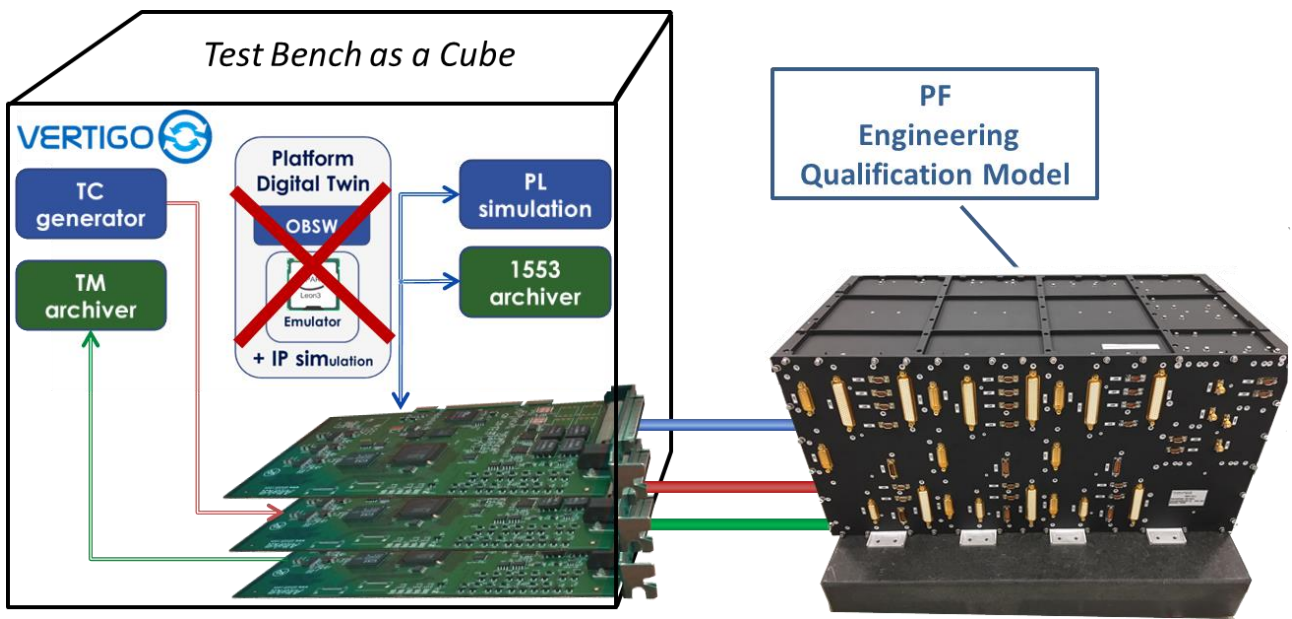

Fig. 4. Architecture of SmartCube as an incremental test bench
- *SmartCube Test Bench*, or *Incremental Test Bench* composed of various SmartCubes (see Fig. 4). The goal is to replace little by little **monolithic** and **expensive** single-purpose tests means by **modular** and **low-cost** SmartCube-based networks.